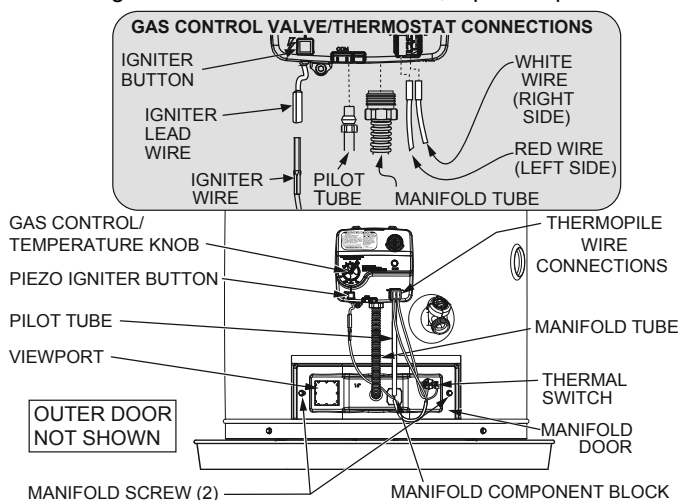

FIGURE 11.
5. Remove the two screws securing the installed manifold door assembly to the combustion chamber (Figure 11).
6. Disconnect the following from the gas control valve/thermostat: pilot tube, igniter wire, and manifold tube. See Figure 11.
7. Using needle nose pliers, disconnect the white and red thermopile connectors from the gas control valve/thermostat (Figure 11).
6. Reconnect the manifold tube and pilot tube to the gas control valve/thermostat (Figure 11). Do not cross-thread or apply any thread sealant to the fittings. IMPORTANT: If you were supplied with a new ferrule nut in a parts kit, follow these steps to connect the pilot tube:
7. Connect the white and red thermopile wires to the gas control valve/thermostat. See Figure 11.